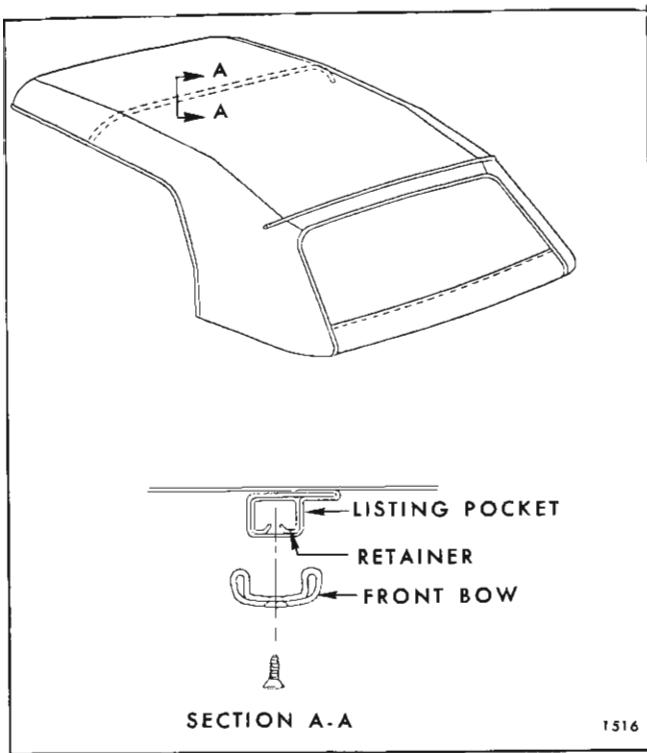

Fig. 1-I-27—Listing Pocket Retainer
14. At underside of front bow, remove screws securing listing pocket retainer to bow (Fig. 1I27).